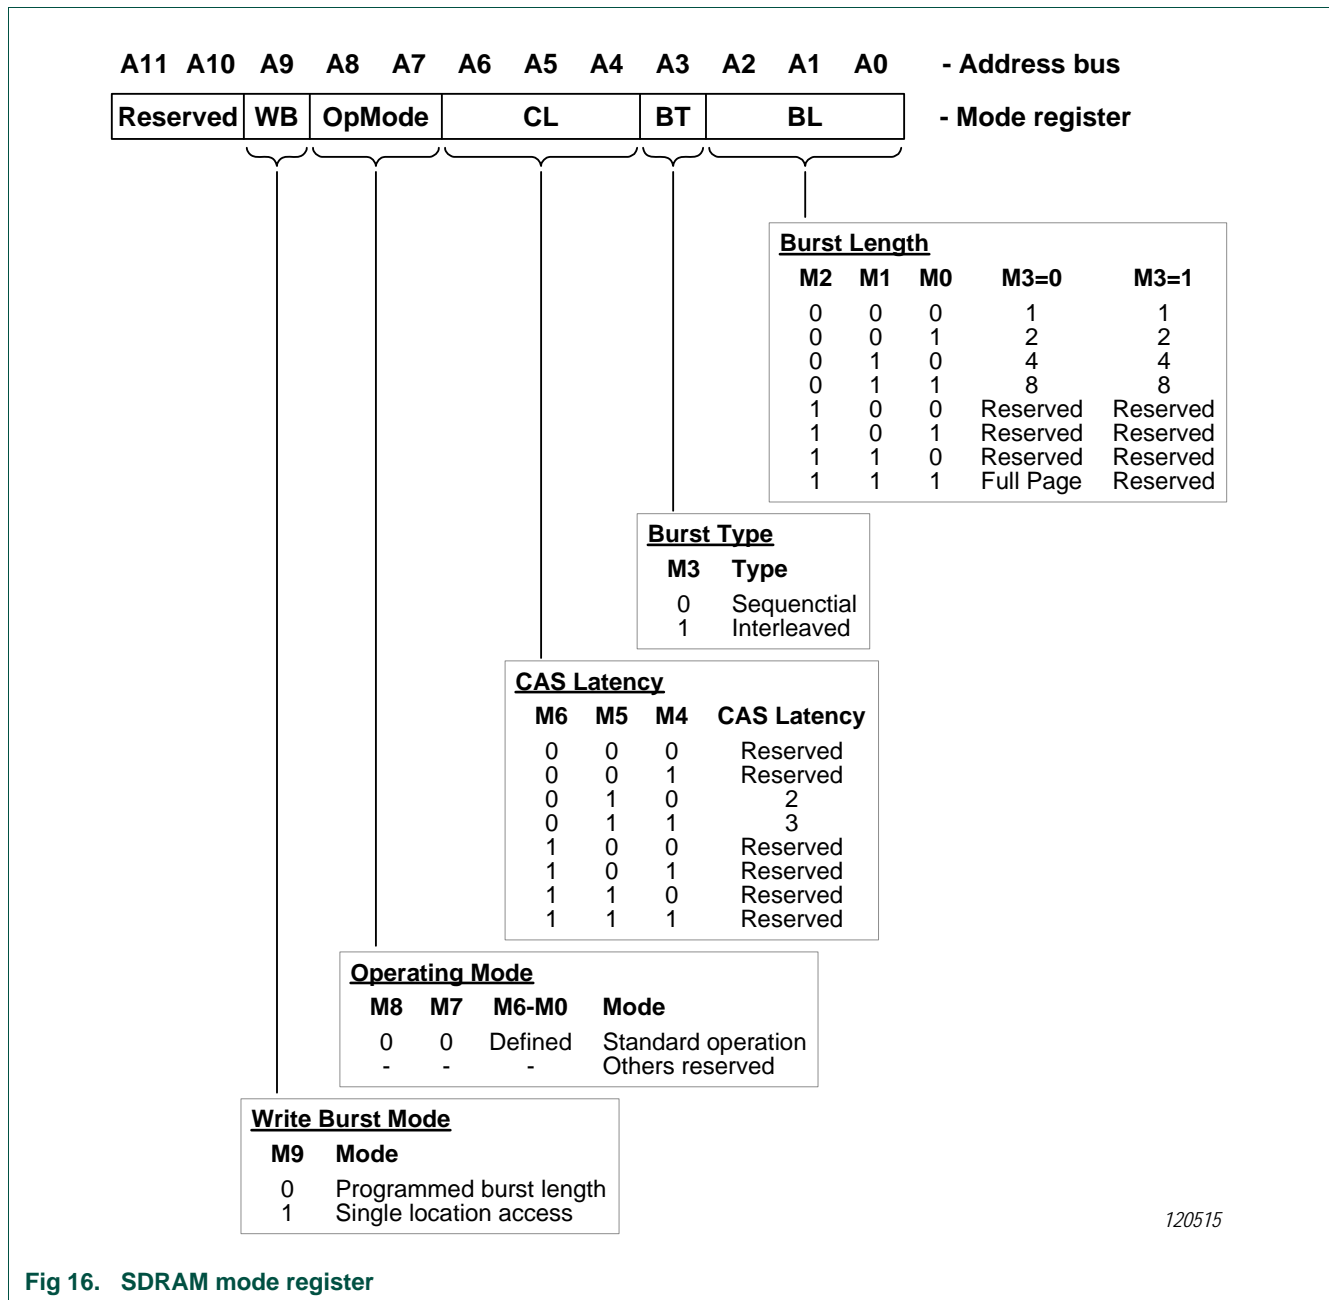

Fig 16. SDRAM mode register
When using the EMC with SDRAM, the SDRAM devices must be configured appropriately for the EMC. This includes setting up the SDRAMs for a 128-bit sequential burst. The burst configuration is done through a mode register in the SDRAM memory. Figure 16 shows the layout for a JEDEC standard SDRAM mode register.
- Mode register value, based on information from both the SDRAM data sheet, as in Figure 16, and the EMC. In this example, the value will be 0x23. This represents a programmed burst length, CAS latency of 2, sequential burst type, and a burst length of 8, as described in Section 9.5.